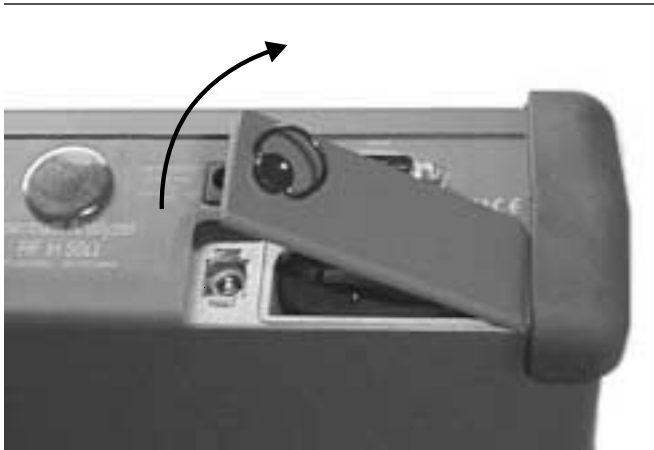

Figure 8. Removing the Battery Access Door
4. Grasp the battery lanyard and pull the battery straight up and out of the unit, as illustrated in Figure 8.